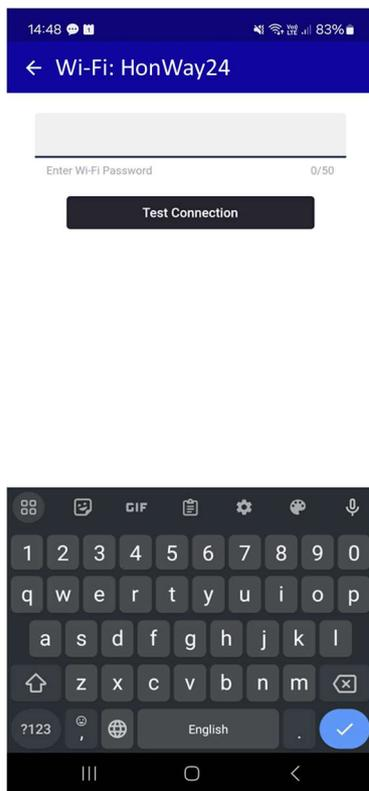

Figure A4 Enter Wi-Fi password
9. The application will ask for a password for the network you selected (**Figure A4**).